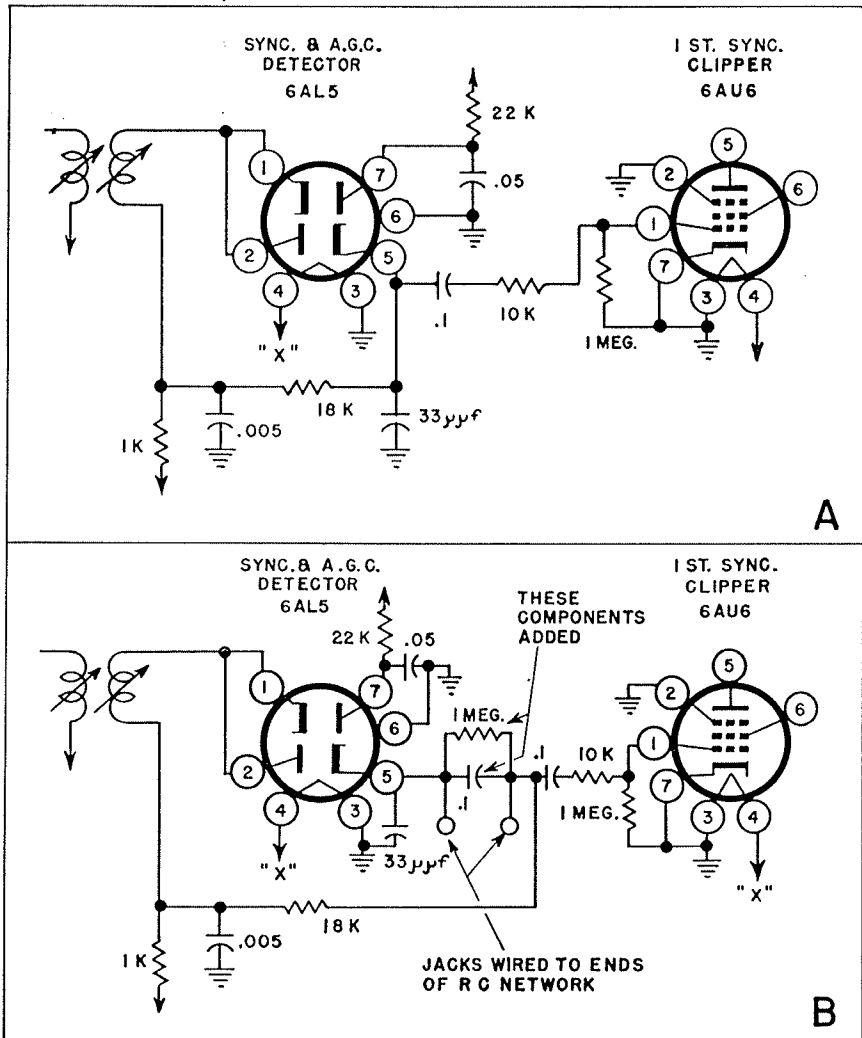

Figure M-2. A: before changes; B: after changes.
- b. Remove the ends of the 18K resistor and the 0.1 mfd capacitor from pin 5 of the sync detector socket. The symbol numbers of these components are R275 and C249 in the RA-109A; and R249 and C261 in the RA-112A, RA-113, RA-117A and RA-120. Connect a parallel network, consisting of a 0.1 mfd capacitor and a 1 meg resistor, between pin 5 of the socket and the ends of the 18K resistor and 0.1 mfd capacitor, as shown in figure M-2.
- c. If jacks have been mounted on the chassis and wired to the ends of R284, they should be rewired, one to each end of the RC network as shown in figure M-2. If the jacks are not present, it